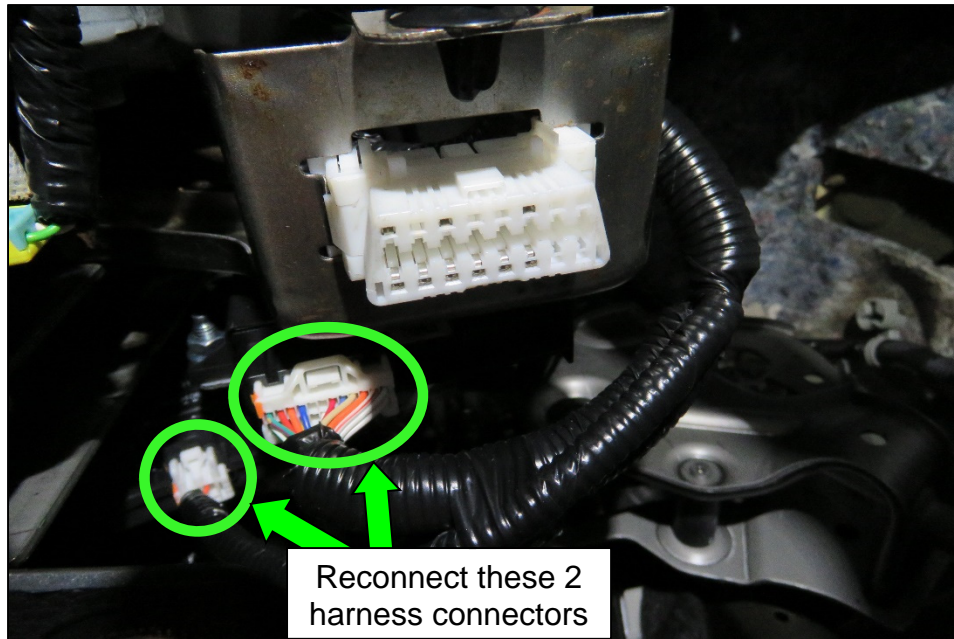

Figure 9
14. Reconnect the white 24 pin sonar control unit harness connector M114 and the smaller white harness connector near it (Figure 9).